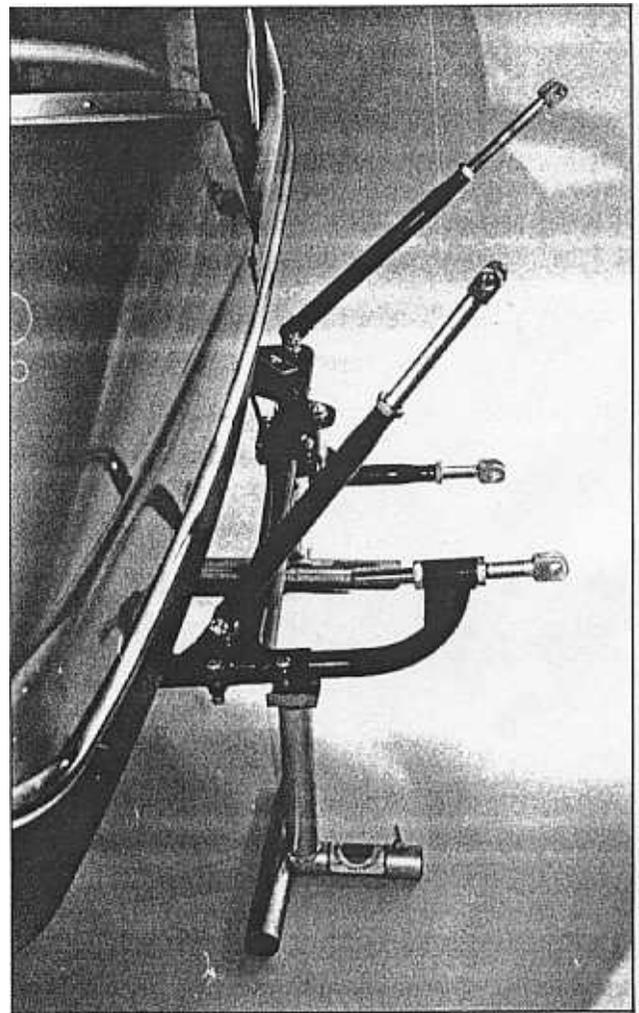

FIGURE 7. Struts and Curved Bar are shown attached with Eyebolts to frame of sidecar.
8. First remove the bottom **Nuts** from the **Eyebolts** on the two long **Struts**, then insert the **Eyebolts** into the front and rear holes provided on the sidecar frame, as shown in figure 7. At this time reattach the **Nuts** to the **Eyebolts** loosely.